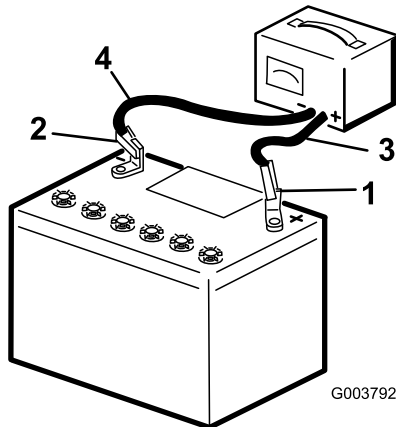

Figure 61
- Charge the battery for 4 to 8 hours at a rate of 3 to 4 A (Figure 61). Do not overcharge the battery.
- When the battery is fully charged, unplug the charger from the electrical outlet, then disconnect the charger leads from the battery posts (Figure 61).